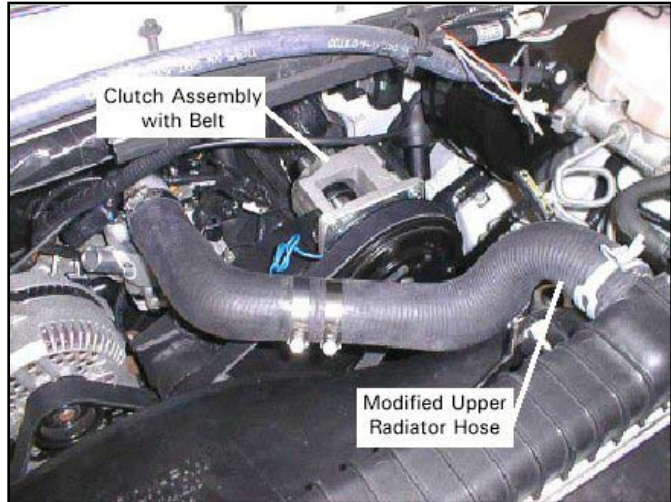

Figure 14. Install New CDS Driver Belt
17. Install the clutch assembly to the clutch bracket using the 5 bolts provided in the kit. Loctite® and torque all bolts to 25 - 30 ft lbs. The opening in the clutch housing will face up. Install the new CDS drive belt. See Figure 14.
18. In the center of the straight section of the upper radiator hose, cut the hose in half. The end that attached to the radiator will go on the same way. The other end that attached to the thermostat housing needs to be flipped over so the cut end is facing the thermostat housing. See Figure 14. (Use the adapter and clamps provided.)